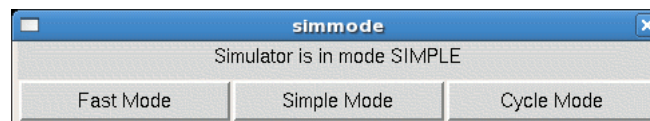

Figure 2-19. Simulation Mode Window
- **Mode**—Displays a window containing a message indicating the current simulation mode and three buttons which will change the simulation mode to fast, simple, or cycle mode. Figure 2-19 shows an example of this dialog window. This dialog provides a convenient way to set the simulation mode for components of the system in a consistent manner. The simulation mode can also be selected with the “mysim mode” command and displayed with the “mysim display mode” command.